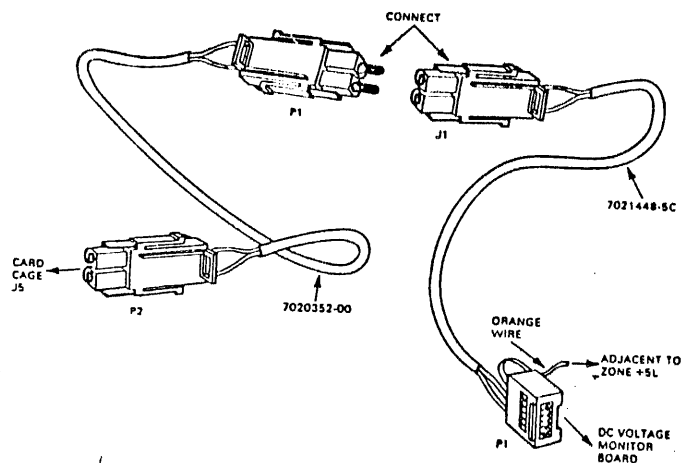

Figure 3-13. DC Voltage Monitor Cable
12. Locate the DC voltage monitor cable, DEC part number 7020352-00 (see Figure 3-13). Connect P2 of the DC voltage monitor cable to J5 on the NIA20 card cage and connect the other cable end (P1) into connector J1 on the new DC voltage monitor board.